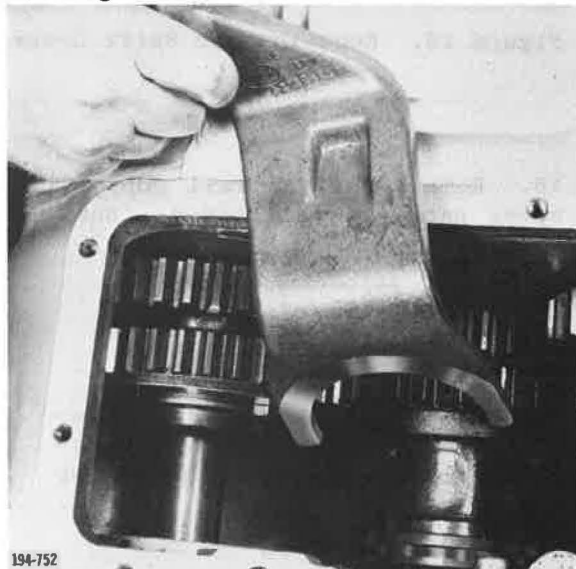

Figure 23. Removing Shift Fork
21. Remove front compound shift fork. See Figure 23.